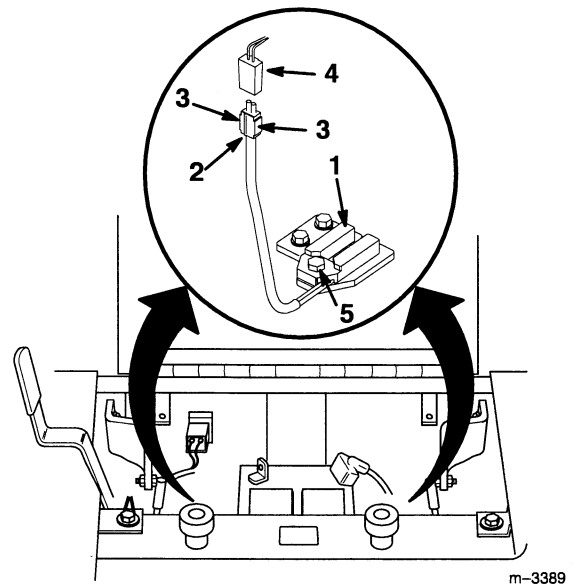

Figure 1
2. Locate the 2 interrupter switches mounted on the tractor frame, one on each side of the battery (Fig. 1).
3. Disconnect the switch connector from the wire harness connector by squeezing the sides of the switch connector to release the locking tabs (Fig. 1).
4. Remove the nut and bolt securing the interrupter switch (Fig. 1) and discard the switch.